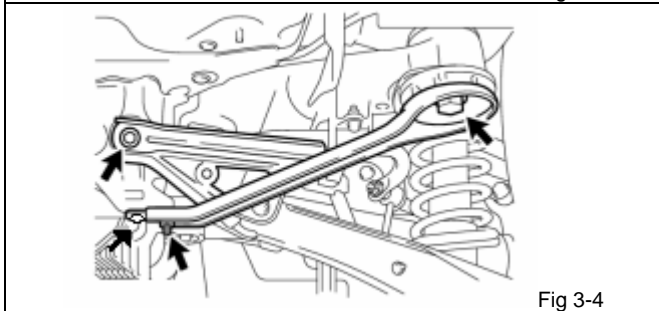

Fig 3-4
(3) Remove the 3 bolts, nut and rear lower suspension member stopper reinforce RH. (Fig 3-4)